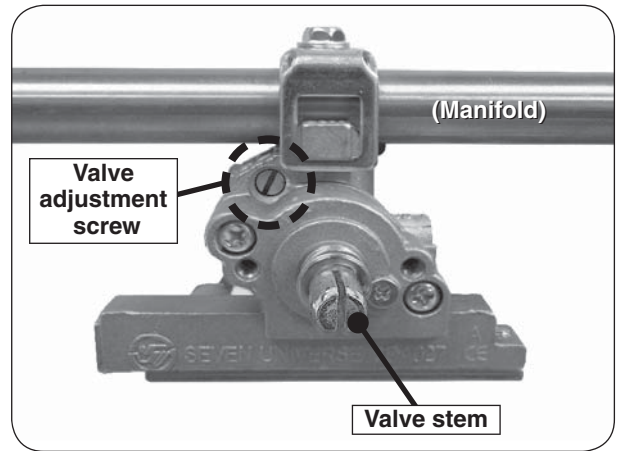

Fig. 25-1 Valve adjustment screw location
5. Locate the FLATHEAD adjustment screw found above the valve stem and below the manifold (see Fig. 25-1).